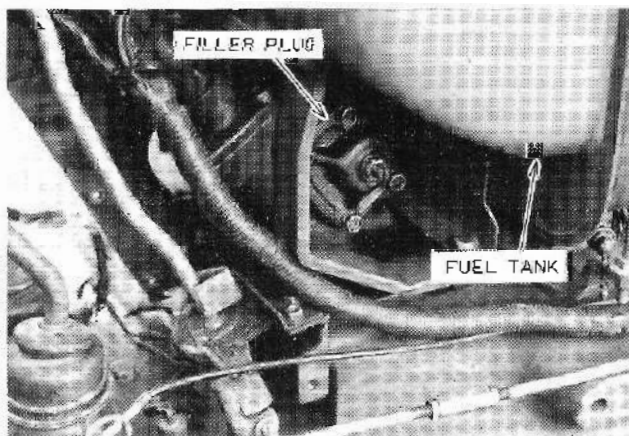

Figure 44 — Steering Gear Housing Filler Plug
2. Visually check the oil level in the housing by removing the filler plug, Figure 44.